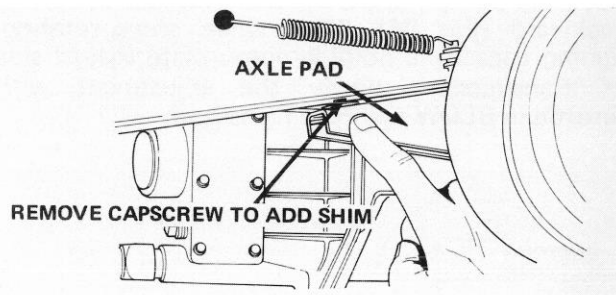

Figure 50
frame (Fig. 50). By contrast, a transmission that is too low will not allow the ruler or scale to lay alongside the coupling retainer. To correct this problem, install a 1/16 inch (1.6 mm) spacer between front of mounting pad and bottom of frame.
3. To install spacers, remove the appropriate two cap screws and loosen the others (Fig. 50). If spacers must be added to front of mounting pad, remove front cap screws and loosen the back ones. Do just the opposite to add spacers at rear of mounting pads.